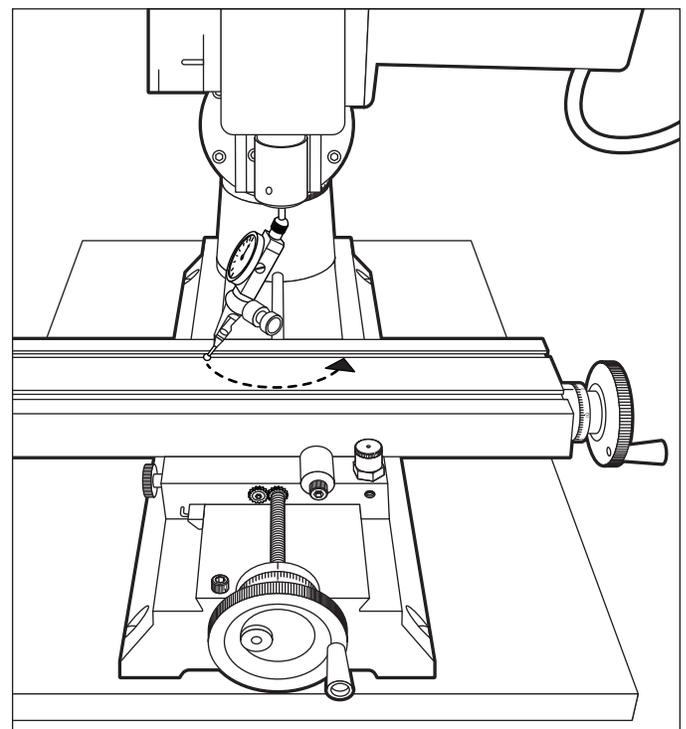

FIGURE 29—Squaring the left to right rotation of the column with the X-axis.
**Model 2000-Series Mills, Model 5800-Series Mills, OR 5000-Series Mills with Optional Rotary Column Attachment**—(see Figure 29)